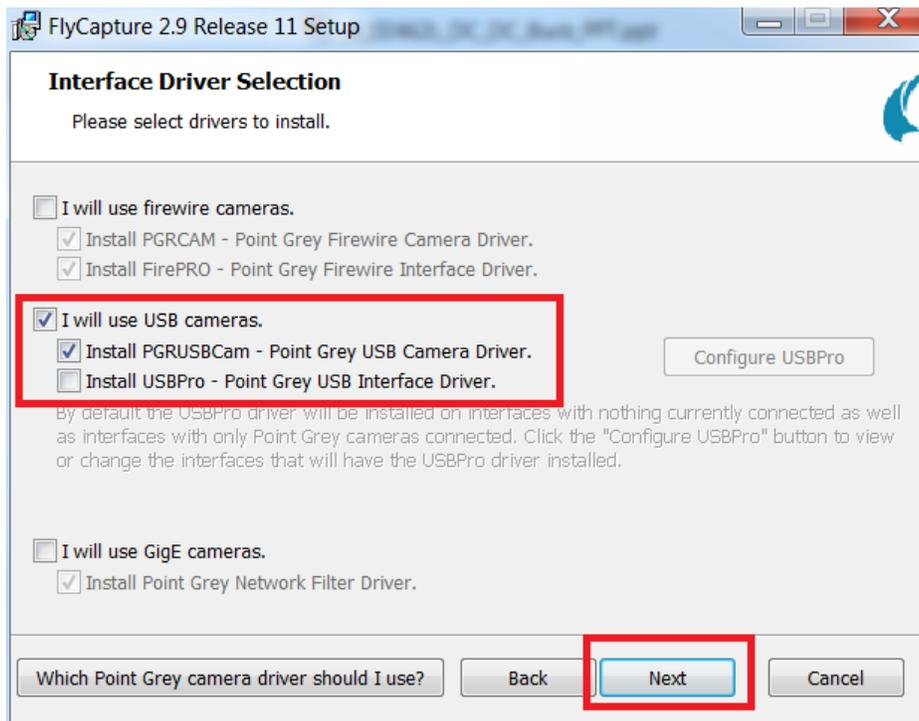

Figure 2-9. Camera Interface Selection for FlyCapture2 SDK
- Pick the camera interface that will be used. For the 3D Scanner Reference Design, the USB interface is utilized. Select "I will use USB cameras," uncheck the box "Install USBPro", and then click the "Next" button. The "Next" button and USB selection is shown in Figure 2-9.